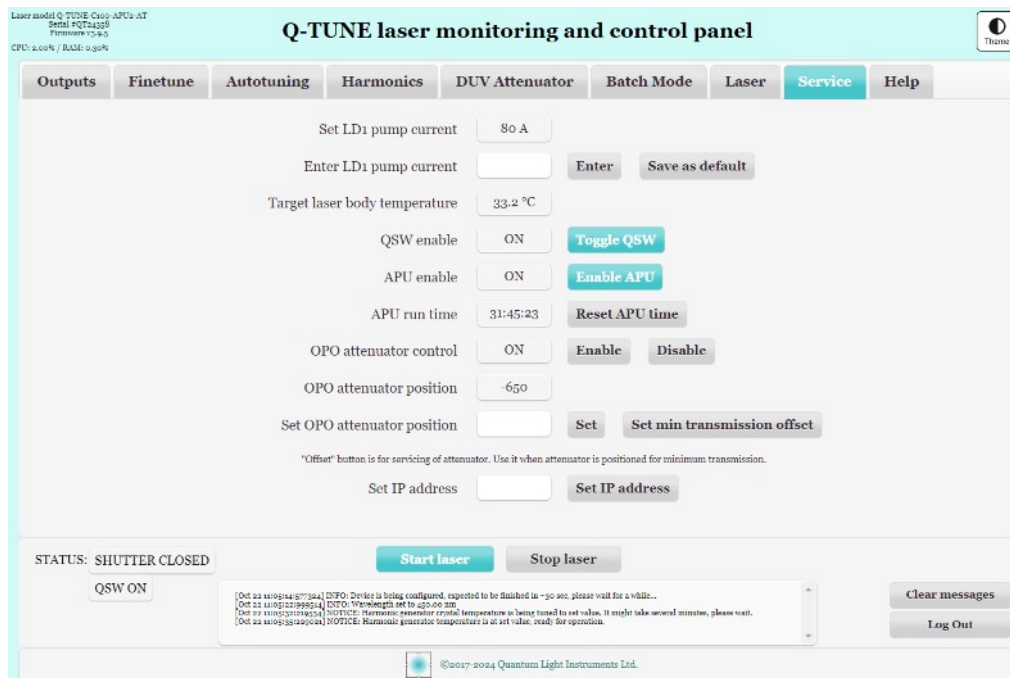

Figure 16: Change of pulse energy by adjusting pump current.
3. Pump current can be changed from “Service” tab as shown in Figure 16.